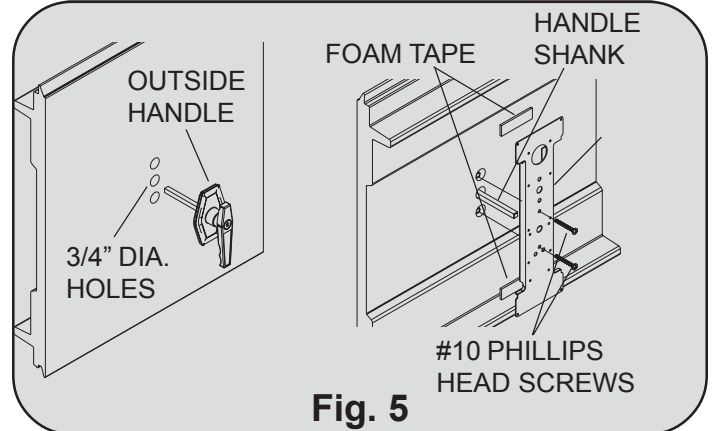

Fig. 5 #10 PHILLIPS HEAD SCREWS
9000 Series & Wood doors (see Fig. 5), align the outside handle assembly with the handle pointing towards the floor and insert the assembly through the previously drilled 3/4" diameter holes in the section. With the outside lock placed in the section, place the center lock stile over the shank of the outside lock handle, secure the center lock stile with foam tape (8300/8500 Series & Wood doors will use the lock backup plate with no foam tape). Secure the outside lock handle to the section by placing the (2) #10 phillips head machine screws through the lock stile into the lock section.